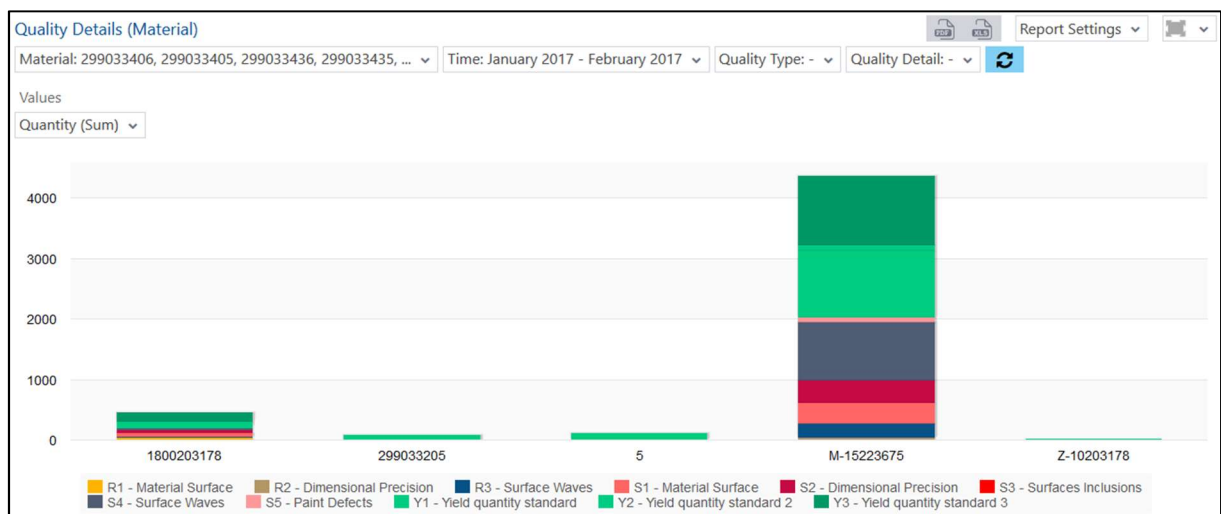

Fig. 109: Quality Details (Material) as a column chart
- Quality Details (Material) as a column chart (Fig. 109):